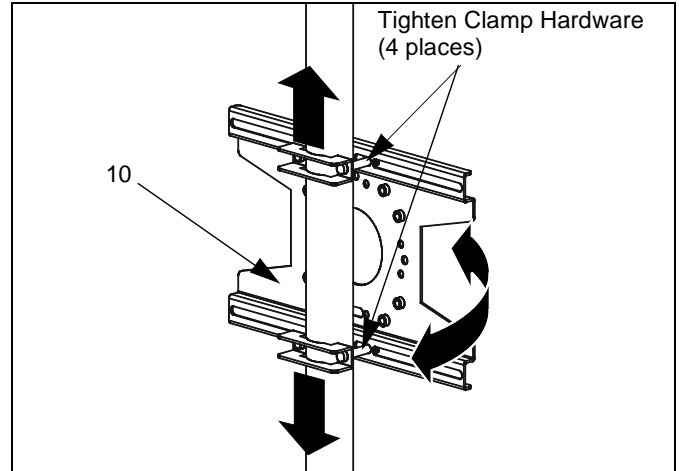

Figure 4: Position and Secure Back Plate
3. Adjust truss plate (10) vertical and horizontal position until desired location is obtained. (See Figure 4)
4. Secure truss plate to pole by tightening clamp hardware. (See Figure 4)
4. Adjust truss plate (10) vertical position until desired location is obtained. (See Figure 4)